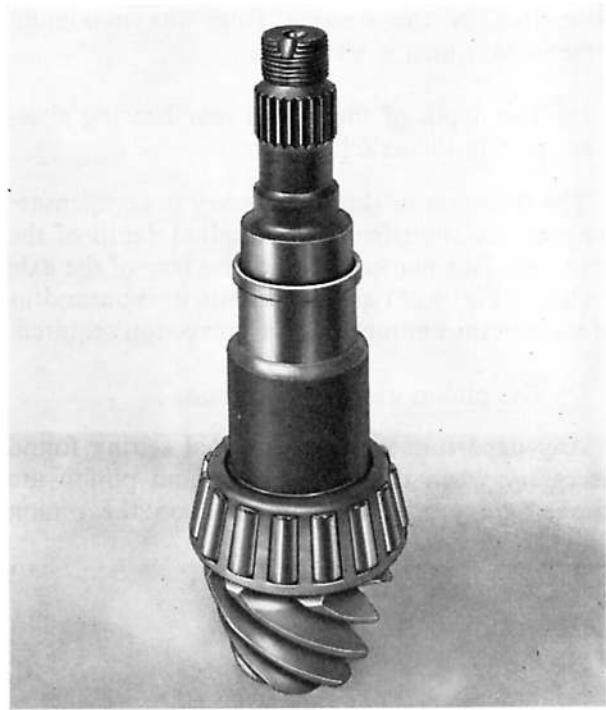

Fig. J.29. A new compressible spacer correctly positioned on the pinion shaft
4. Place a new compressible spacer on the pinion shaft and insert the pinion in the axle housing (Fig. J.29).